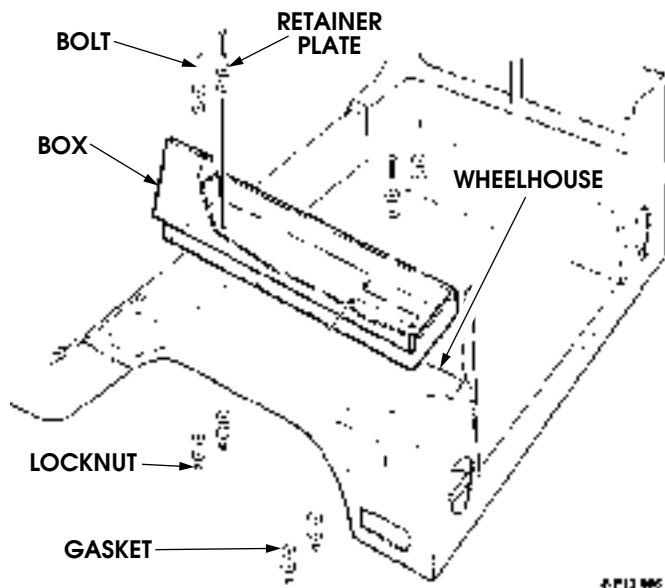

Figure 13-79: Off-Road Accessory Box Mounting
1. Remove four bolts, locknuts, 8 retainer plates and gaskets securing the box to the wheelhouse (See Figure 13-79).
2. Using the forward inboard and the two outboard holes in the bottom of the tool box as a template, mark the carpet and drill 1/4" holes through the carpet and the wheel house (See Figure 13-79).